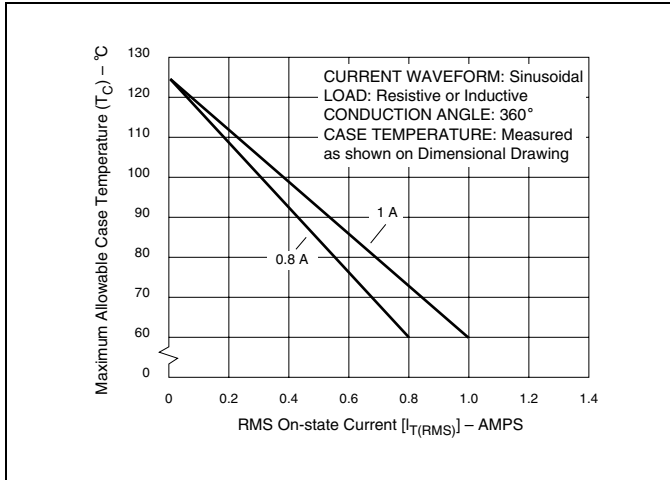
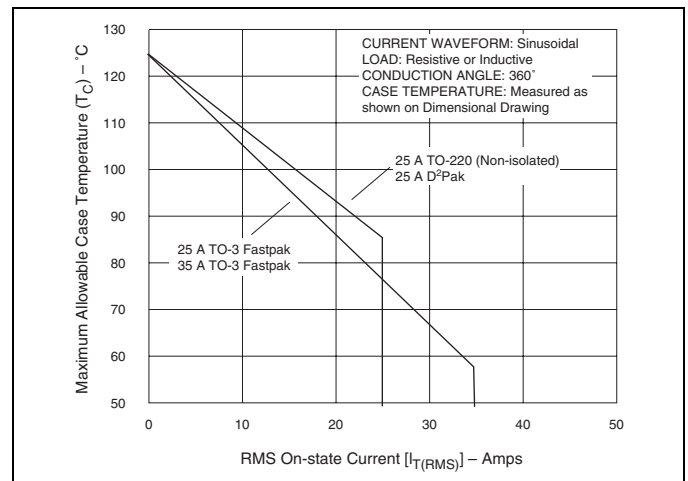
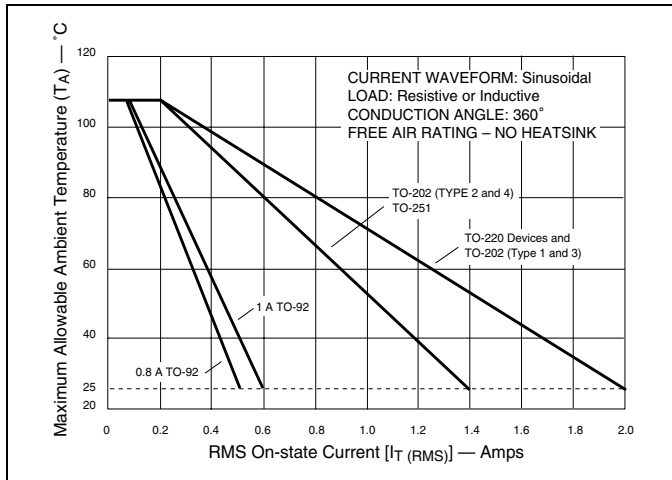
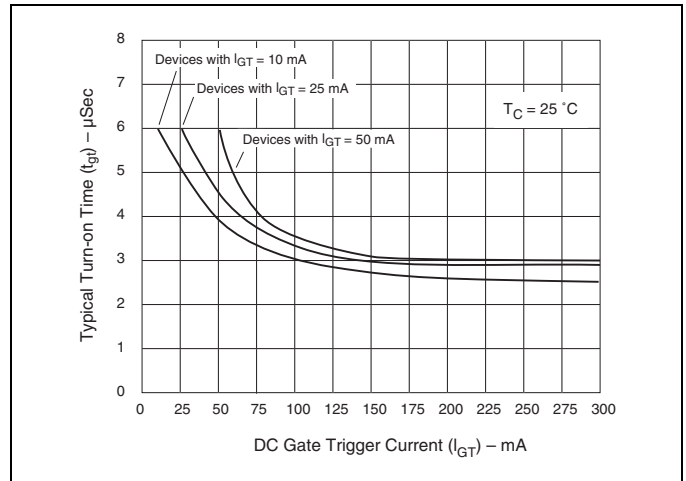

Figure E2.1 Maximum Allowable Case Temperature versus On-state Current (0.8 A and 1 A)
Figure E2.6 Maximum Allowable Case Temperature versus On-state Current (25 A and 35 A)
Figure E2.7 Maximum Allowable Ambient Temperature versus On-state Current
Figure E2.15 Turn-on Time versus Gate Trigger Current (Typical)
- (1) For either polarity of MT2 with reference to MT1 terminal
- (2) For either polarity of gate voltage ( $V_{GT}$ ) with reference to MT1 terminal
- (3) See Gate Characteristics and Definition of Quadrants.
- (4) See Figure E2.1 through Figure E2.7 for current rating at specific operating temperature.
- (10) See Figure E2.15 for  $t_{gt}$  versus  $I_{GT}$ .
- (11) See package outlines for lead form configurations. When ordering special lead forming, add type number as suffix to part number.
- (12) Initial on-state current = 200 mA dc for 0.8 A to 10 A devices, 400 mA dc for 15 A to 35 A devices
- (13) See Figure E2.1 through Figure E2.6 for maximum allowable case temperature at maximum rated current.
- (14) Pulse width  $\leq 10 \mu s$ ;  $I_{GT} \leq I_{GTM}$
- (15)  $R_L = 60 \Omega$  for 0.8 A to 10 A triacs;  $R_L = 30 \Omega$  for 15 A to 35 A triacs
- (16)  $T_C = T_J$  for test conditions in off state
- (17)  $I_{GT} = 300$  mA for 25 A and 35 A devices
- (18) Quadrants I, II, III only
- (19) Minimum non-trigger  $V_{GT}$  at 125 °C is 0.2 V for all except 50 mA MAX QIV devices which are 0.2 V at 110 °C.